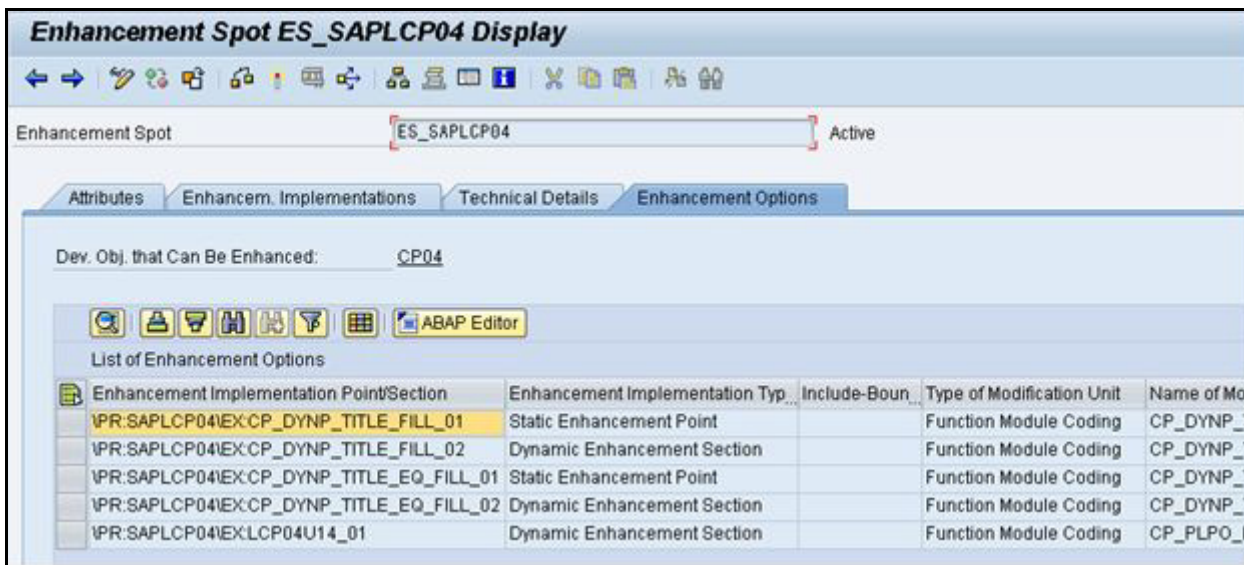

Figure 8-11: Enhancement Spot
- 6 Locate the Enhancement Spot where you will insert the new enhanced transaction, as in Figure 8-11.